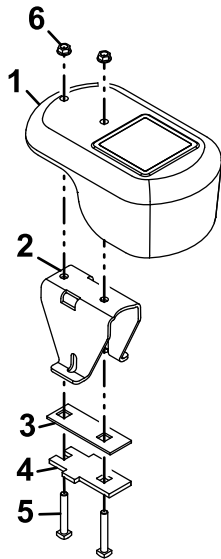

Figure 7
1. Use the bolts (3/8 x 2-1/2 inches), nuts to secure the plates to the weight (Figure 7).